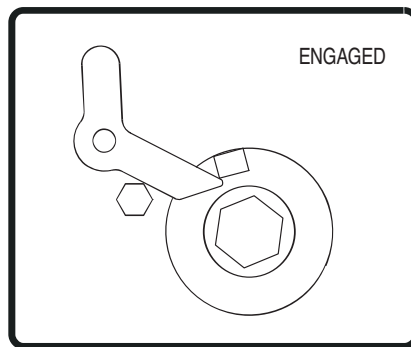

FIGURE 2a
2. Engage the roller stop pawl. (*See Figure 2a.*) Note: The roller stop pawl may be placed on the right or left inside as needed for easy accessibility.
6. Before removing reel from reel roller, place the roller stop pawl in the engaged position. (*See Figure 2a.*) Then remove reel from the reel roller.